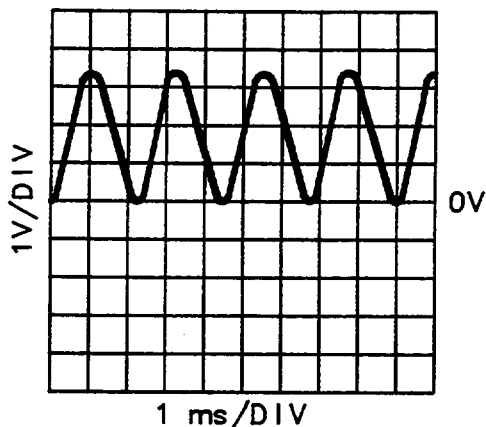

Figure 8-8. A4TP5 Phase Detector Waveform
12. Connect the oscilloscope to A4TP5. Verify the signal shown in Figure 8-8. The signal level should be .9 times the voltage at A4TP17 p-p, $\pm 0.4V$. Retain the peak voltage reading for steps 13 and 15.